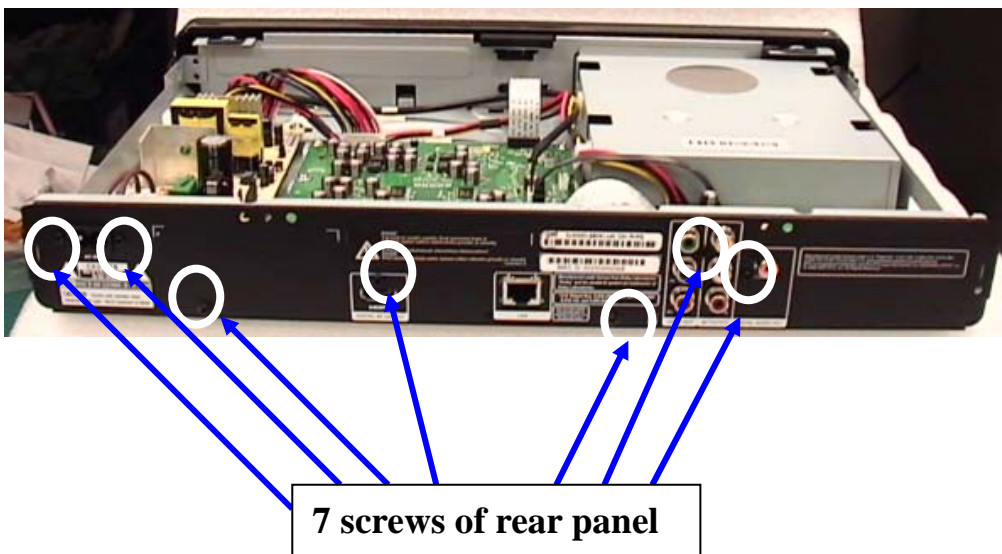

Figure 4-3-2 Rear panel of BDP 5000
- 2-2) For BDP-5000 (See Figure 4-3-2)